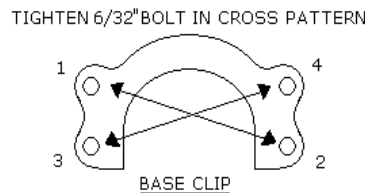

FIG. 3
6. When securing the CAP to the BASE CLIP with the (4) 6/32" bolts, make sure to secure them evenly and tighten using Loctite and in a crisscross pattern. FIG.3 DO NOT OVER TIGHTEN.